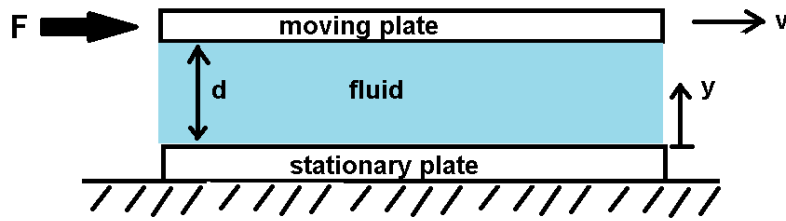

Figure 1: Sliding Plate Viscometer
Viscosity is defined as a fluid's (liquid or gas) resistance to flow when an external force is applied. The viscosity can be measured using a sliding plate viscometer (see Figure 1 below). Two horizontal plates at a distance of (d) are separated between each other, and the fluid is between them. An external force (F) is applied to the top plate, which moves at velocity (v). The bottom plate is stationary. The fluid is exposed to the bottom of the top plate, with a surface area denoted as A .